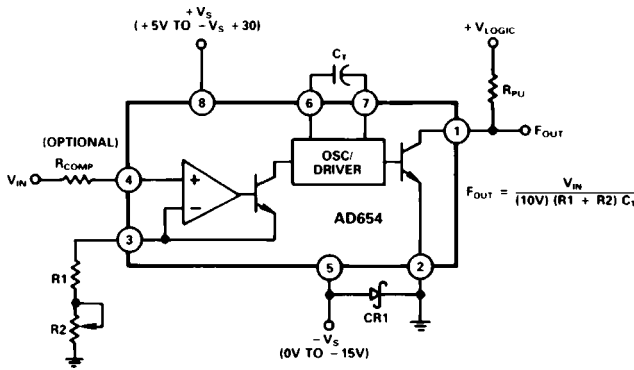

Figure 1. Standard V-F Connection for Positive Input Voltages
The AD654's block diagram appears in Figure 1. A versatile operational amplifier serves as the input stage; its purpose is to convert and scale the input voltage signal to a drive current in the NPN follower. Optimum performance is achieved when, at the full-scale input voltage, a 1 mA drive current is delivered to the current-to-frequency converter (an astable multivibrator). The drive current provides both the bias levels and the charging current to the externally connected timing capacitor. This "adaptive" bias scheme allows the oscillator to provide low non-linearity over the entire current input range of 100 nA to 2 mA. The square wave oscillator output goes to the output driver which provides a floating base drive to the NPN power transistor. This floating drive allows the logic interface to be referenced to a level other than -V_S.
In the connection scheme of Figure 1, the input amplifier presents a very high (250 MΩ) impedance to the input voltage, which is converted into the proper drive current by the scaling resistors at Pin 3. Resistors R1 and R2 are selected to provide a 1 mA full-scale current with enough trim range to accommodate the AD654's 10% FS error and the components' tolerances. Full-scale currents other than 1 mA can be chosen, but linearity will be reduced; 2 mA is the maximum allowable drive. The AD654's positive input voltage range spans from -V_S (ground in sink supply operation) to four volts below the positive supply. Power supply rejection degrades as the input exceeds (+V_S - 3.75 V) and at (+V_S - 3.5 V) the output frequency goes to zero.
As indicated by the scaling relationship in Figure 1, a 0.01 μF timing capacitor will give a 10 kHz full-scale frequency, and 0.001 μF will give 100 kHz with a 1 mA drive current. Good V/F linearity requires the use of a capacitor with low dielectric absorption (DA), while the most stable operation over temperature calls
for a component having a small tempco. Polystyrene, polypropylene, or Teflon* capacitors are preferred for tempco and dielectric absorption; other types will degrade linearity. The capacitor should be wired very close to the AD654. In Figure 1, Schottky diode CR1 (MBD101) prevents logic common from dropping more than 500 mV below -V_S. This diode is not required if -V_S is equal to logic common.
The AD654 was designed to be used with a minimum of additional hardware. However, the successful application of a precision IC involves a good understanding of possible pitfalls and the use of suitable precautions. Thus $+V_{IN}$ and R_T pins should not be driven more than 300 mV below $-V_S$. Likewise, Logic Common should not drop more than 500 mV below $-V_S$. This would cause internal junctions to conduct, possibly damaging the IC. In addition to the diode shown in Figures 1 and 2 protecting Logic Common, a second Schottky diode (MBD101) can protect the AD654's inputs from "below $-V_S$ " inputs as